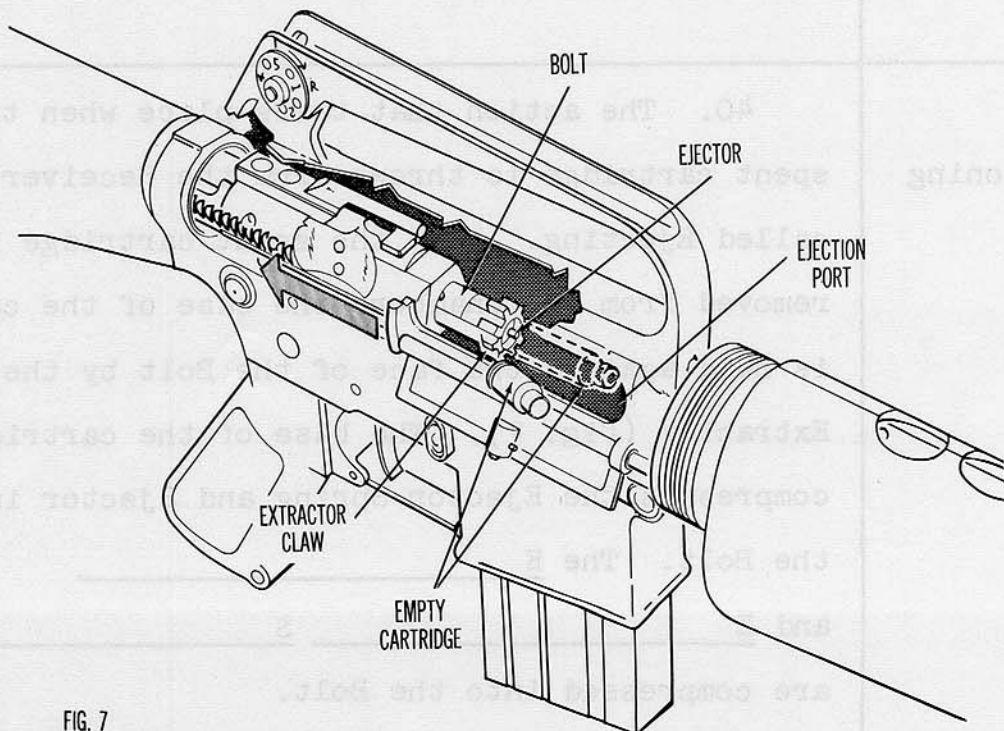

FIG. 7
40. The action that takes place when the spent cartridge is thrown from the Receiver is called Ejecting. When the spent cartridge is removed from the Chamber, the base of the cartridge is held against the face of the Bolt by the Extractor (fig. 7). The base of the cartridge compresses the Ejector Spring and Ejector into the Bolt. The E \_\_\_\_\_